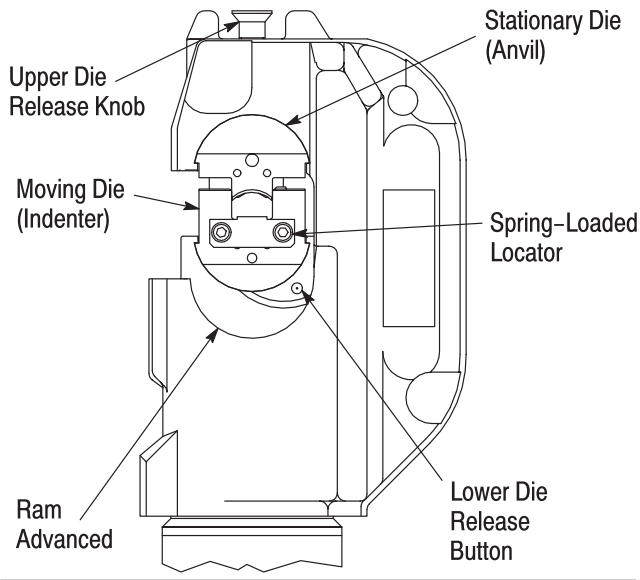

Figure 2
2. DIE INSTALLATION AND REMOVAL (Figure 2)